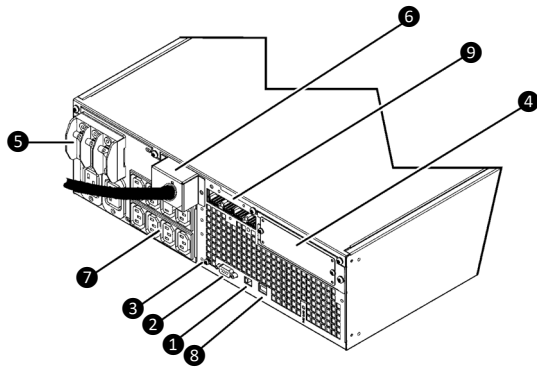

Figure 5
**UPS Back Panel (Figure 5):**